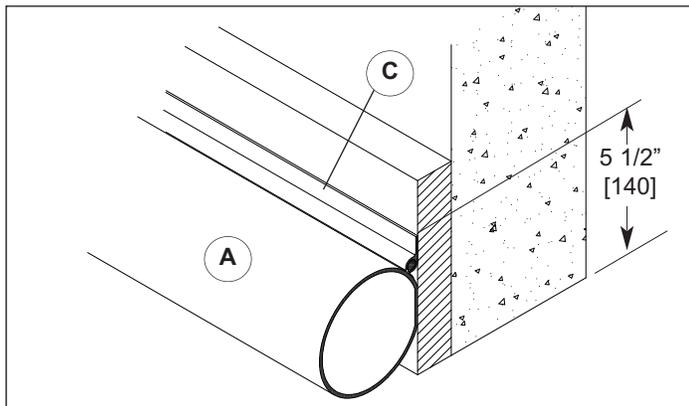
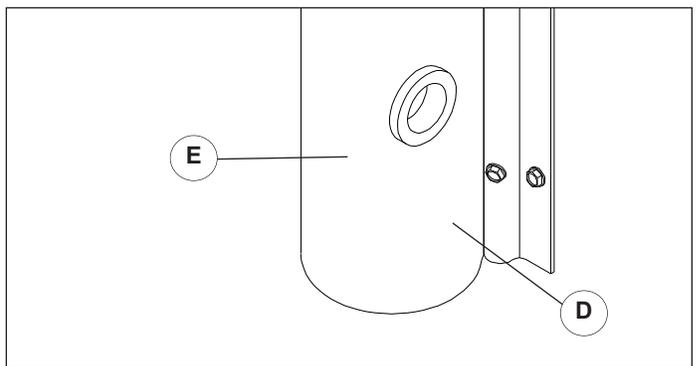

Figure 9.4 - Seal Aluminum Retainer
Figure 9.5 - Seal Exhaust Hole
1. Find the center of the opening and place a mark on the floor. From the center of the opening measure and snap a chalk line on the wall the full height of the opening  $1/2$  O.D.W. plus  $5\ 1/2"$  [140] (J).
2. From the floor, measure O.D.H. plus  $5\ 1/2"$  [140] (K) to the top of the opening and snap a chalk line the full width of the opening.
3. Position Thermal Air® sealing system (A) in front of the opening with the extended section on the drive side. Vertical extension (B) is fastened to the blower on the drive side.
4. Fasten the aluminum seal retainer (C) Figure 9.4 to the wall at the bottom Figure 9.5, and then every  $18"$  [457] using the  $\#14 \times 1\ 1/4"$  [32] hex head screws provided if possible. Pull seal tight and place a fastener thru the retainer and the white rope at the top. Repeat for opposite side.
6. Air seal must be twist and wrinkle free (F).
7. Air exhaust hole must not be obstructed (E) on both sides.
9. Mount the blower (G) to the wall such that no part of the blower sticks past the header and the vertical section of the air seal will attach to it. The fabric should be taught but not stretched when clamping (H) to the blower. Use (4)  $\#14 \times 1\ 1/4"$  [32] hex head screws provided.
- From the floor, measure O.D.H. plus  $5 1/2"$  [140] (K) to the top of the opening and snap a chalk line the full width of the opening.
- Position Thermal Air® sealing system (A) in front of the opening with the extended section on the drive side. Vertical extension (B) is fastened to the blower on the drive side.
- Fasten the aluminum seal retainer (C) Figure 9.4 to the wall at the bottom Figure 9.5, and then every  $18"$  [457] using the #14 x  $1 1/4"$  [32] hex head screws provided if possible. Pull seal tight and place a fastener thru the retainer and the white rope at the top. Repeat for opposite side.
- Air seal must be twist and wrinkle free (F).
- Air exhaust hole must not be obstructed (E) on both sides.
- Mount the blower (G) to the wall such that no part of the blower sticks past the header and the vertical section of the air seal will attach to it. The fabric should be taught but not stretched when clamping (H) to the blower. Use (4) #14 x  $1 1/4"$  [32] hex head screws provided.